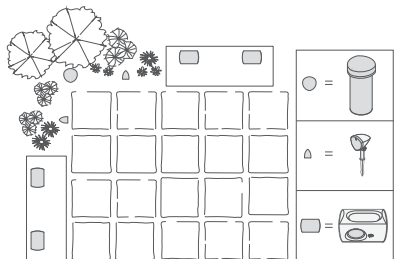

Figure 3
- Combined with Definitive Technology AW Series under-eave outdoor speakers (see Figure 3)